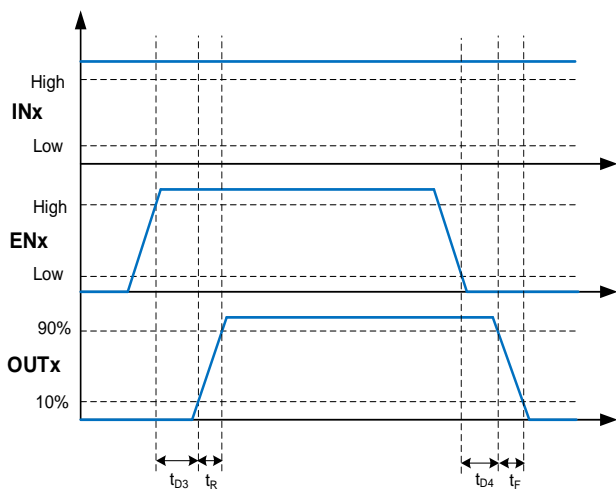
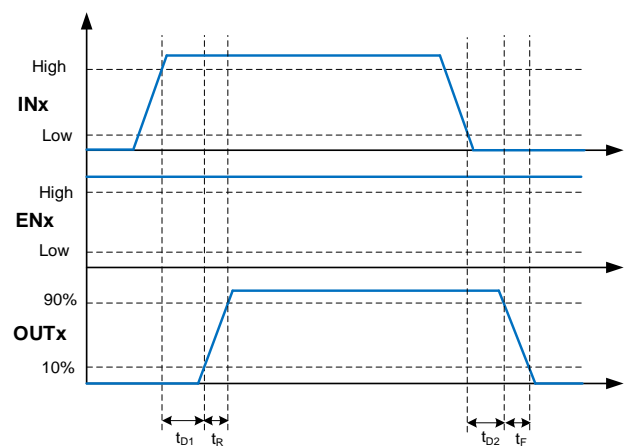

Figure 3. Enable Function
Figure 4. Input and Output Operation
1) See timing diagrams in Figure 3 to Figure 4.